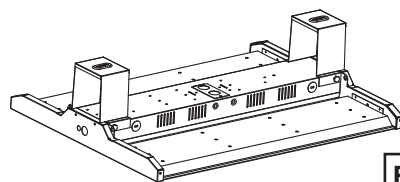

Fig. C-1
1. Align the surface mount brackets with the fixture back plate as show in the **Figure C-1**
2. Screw the hexagonal head screws into the rivet nut to fix the surface mount brackets on the fixture body. (**Figure C-1**)